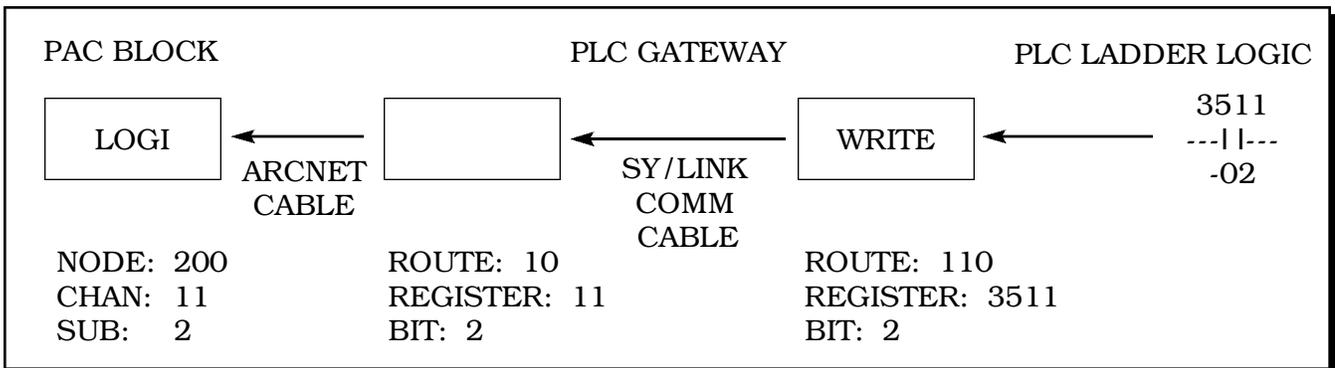

Figure 2. **PLC to PAC Logic Input**
**Logic Inputs (LOGI)** to a PAC schematic from a PLC is illustrated in Figure 2.